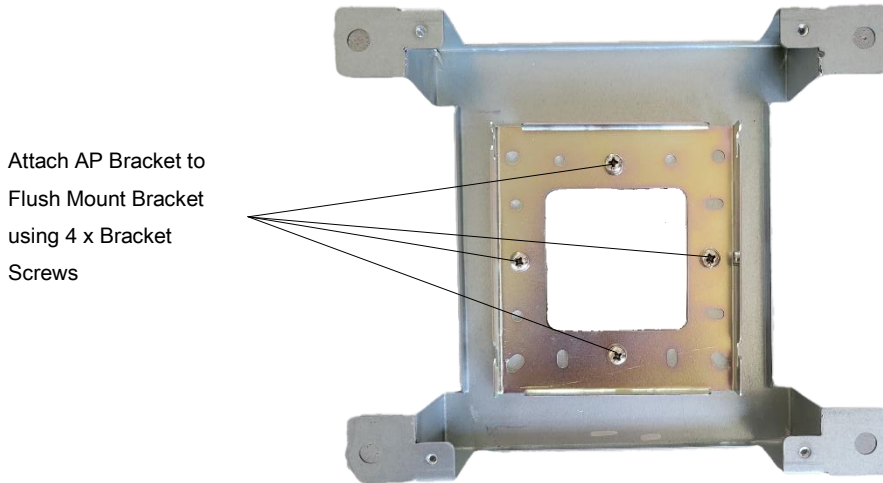

Figure 76: APV3-BDA - Mounting Standard Mounting Bracket to Flush Mount Bracket
- Install the APV3-BDA standard mounting bracket into the flush mount bracket using the (4) screws removed in the previous step. Ensure the standard mounting bracket is installed with the HEX Screw hole on the right side. See Figure 76 below.